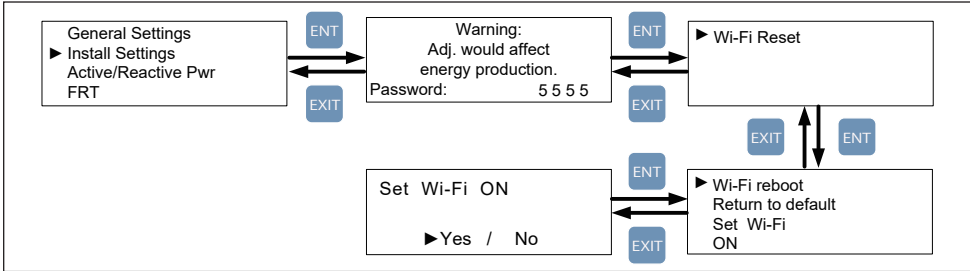

Figure 4-13 Set Wi-Fi
2. Set Wi-Fi ON, refer to **Figure 4-13**.